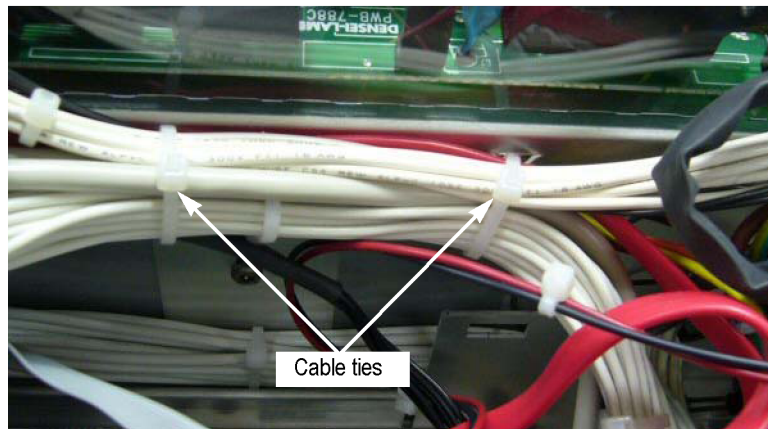

Figure 11: Location of the cable ties
4. Use a wire cutter to remove the two cable ties. (See Figure 11.)